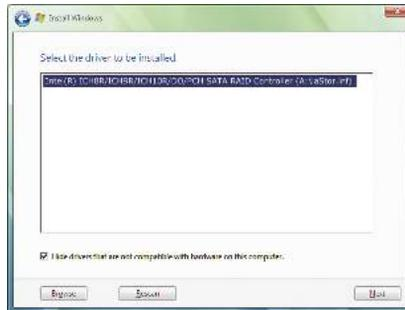

Figure 7
When a screen as shown in Figure 7 appears, select **Intel(R) ICH8R/ICH9R/ICH10R/DO/PCH SATA RAID Controller (ATA/ATAPI)** and click **Next**.